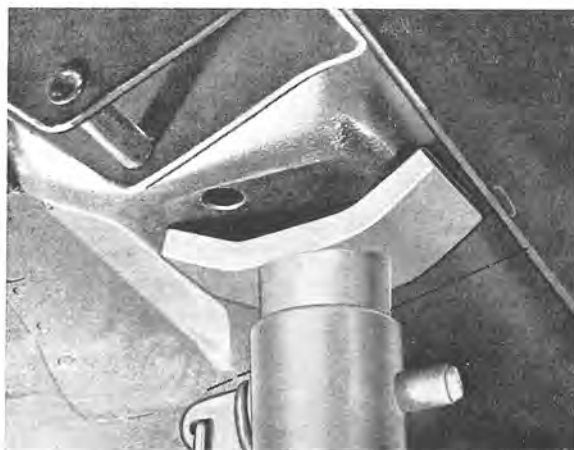

Fig. 4-145. Locating axle prop
1. Place chocks in front of the front wheels. Slacken the rear wheel nuts. Raise the rear end of the vehicle and place an axle prop under in front of the rear jack attachments, see Fig. 4-145. Note that the prop must not be placed at a point further than the dash line indicated in the figure. Take off the rear wheels.